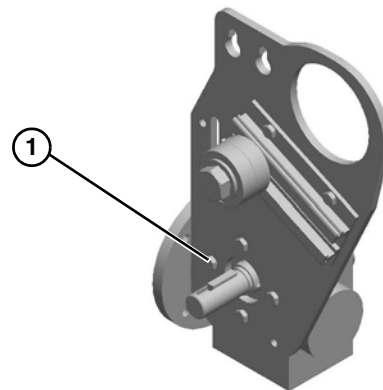

Figure 35
10. Install gear reducer to mounting bracket and tighten bolts (**Figure 35, item 1**) to 110 in-lb (12 Nm).